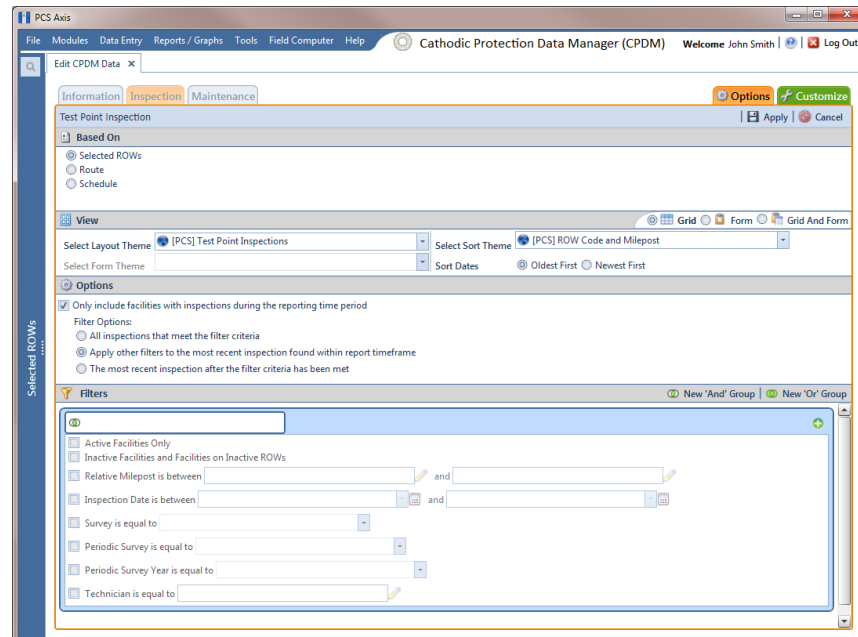

Figure 8-20. Options
- Click  **Save**, then click the **Options** tab  to open the options page (Figure 8-20).